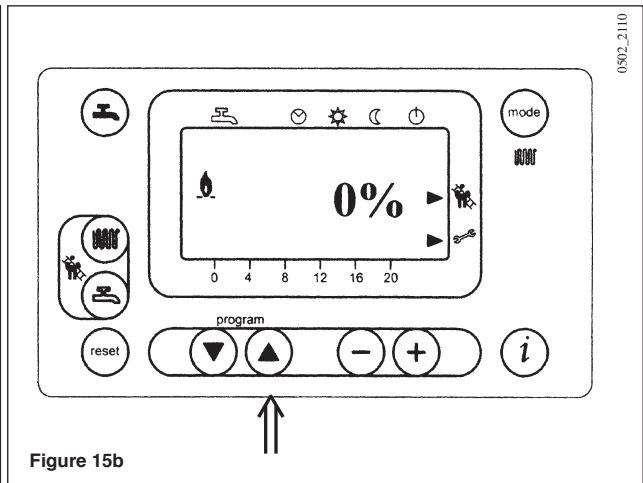

Figure 15b
- Press the  key to set the minimum heat output, with the display showing 0% (figure 15b).